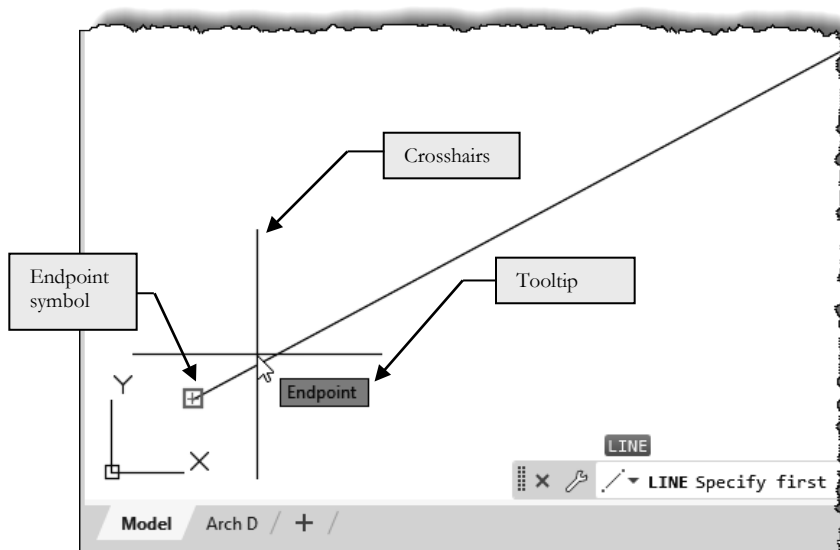

FIGURE 2-2.6 Endpoint OSNAP symbol visible
6. On the *Home* tab, in the *Draw* panel, pick the **Line** command, and move your cursor to the lower-left portion of the diagonal line (Figure 2-2.6).